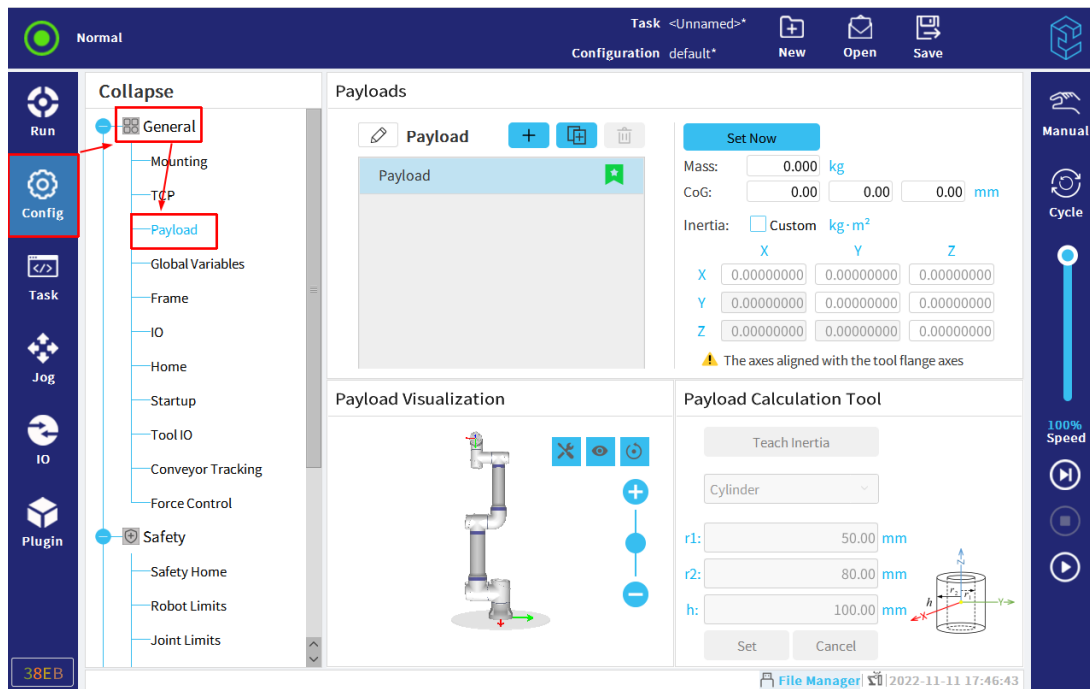

Figure 3-43 : Set payload now
The user can specify the weight of the payload and define the center of gravity, and can add, rename, delete, copy and other operations on the payload, as shown in **Figure 3-43**.
- Immediate setting: click "Set Now", a black check mark will appear, indicating that the payload is activated immediately, as shown in **Figure 3-43** .